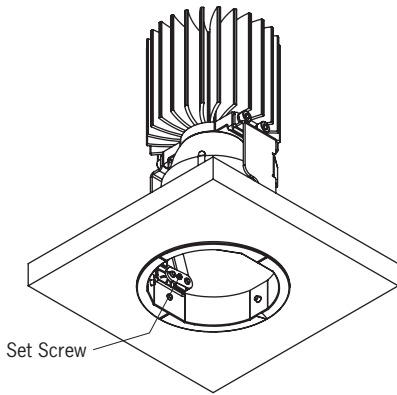

FIGURE 4
- A convenience 2-in-1 duplex connector is provided if daisy-chaining housings is desired. The duplex connector must be installed in the knockout located opposite the pre-wired low voltage harness. (Figure 4).
- Remove driver cover. (Figure 4)